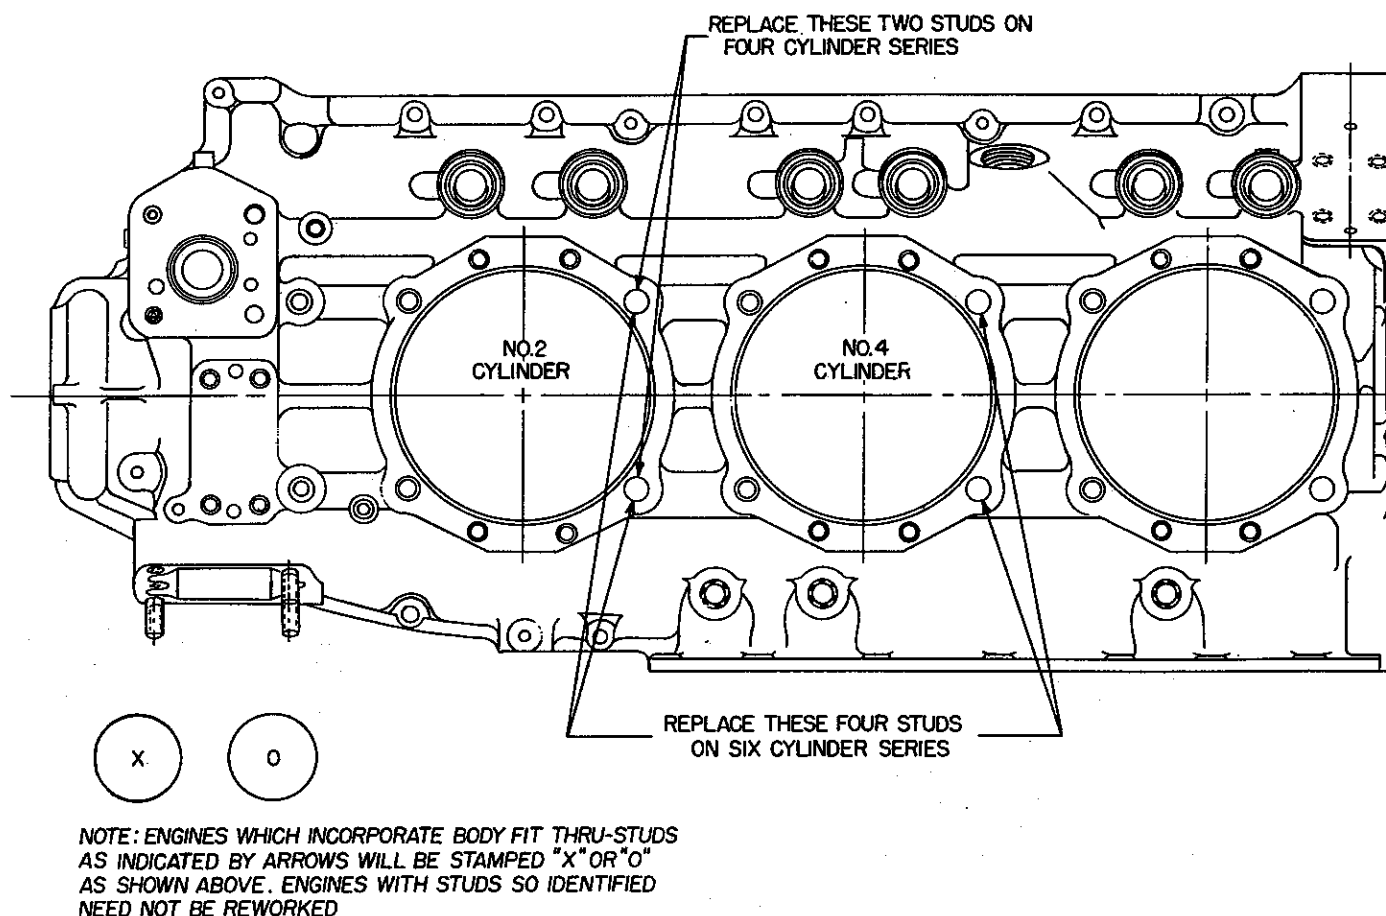

Figure 7-11. Location of Thru-Studs to be Modified
1. With the crankcase assembled as directed in paragraphs 7-34 and 7-35, loosen and remove the thru-studs from the locations shown in figure 7-11.